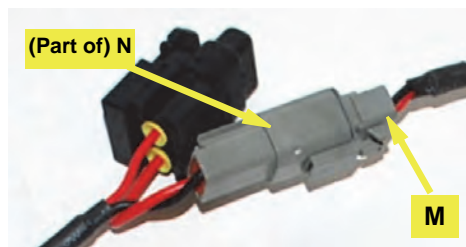

Figure 6c: Power cable to junction box cable
- d. Connect the gray connector of the power cable **M** (routed into the cab at step 6a) to the gray cable from the junction box **N** (Figure 6c).